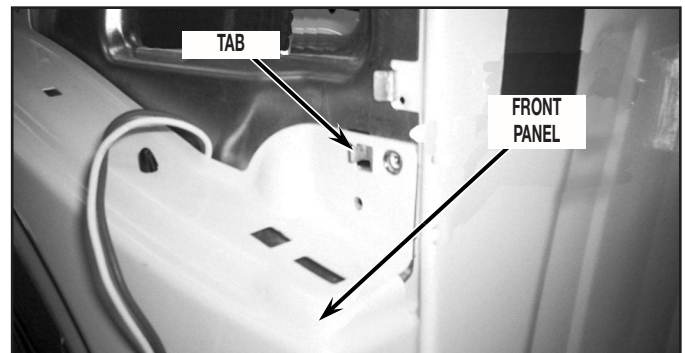

FIGURE 9
9. Remove front panel assembly from dryer by lifting panel assembly up and off tabs (one each side) as shown in *Figure 9*.